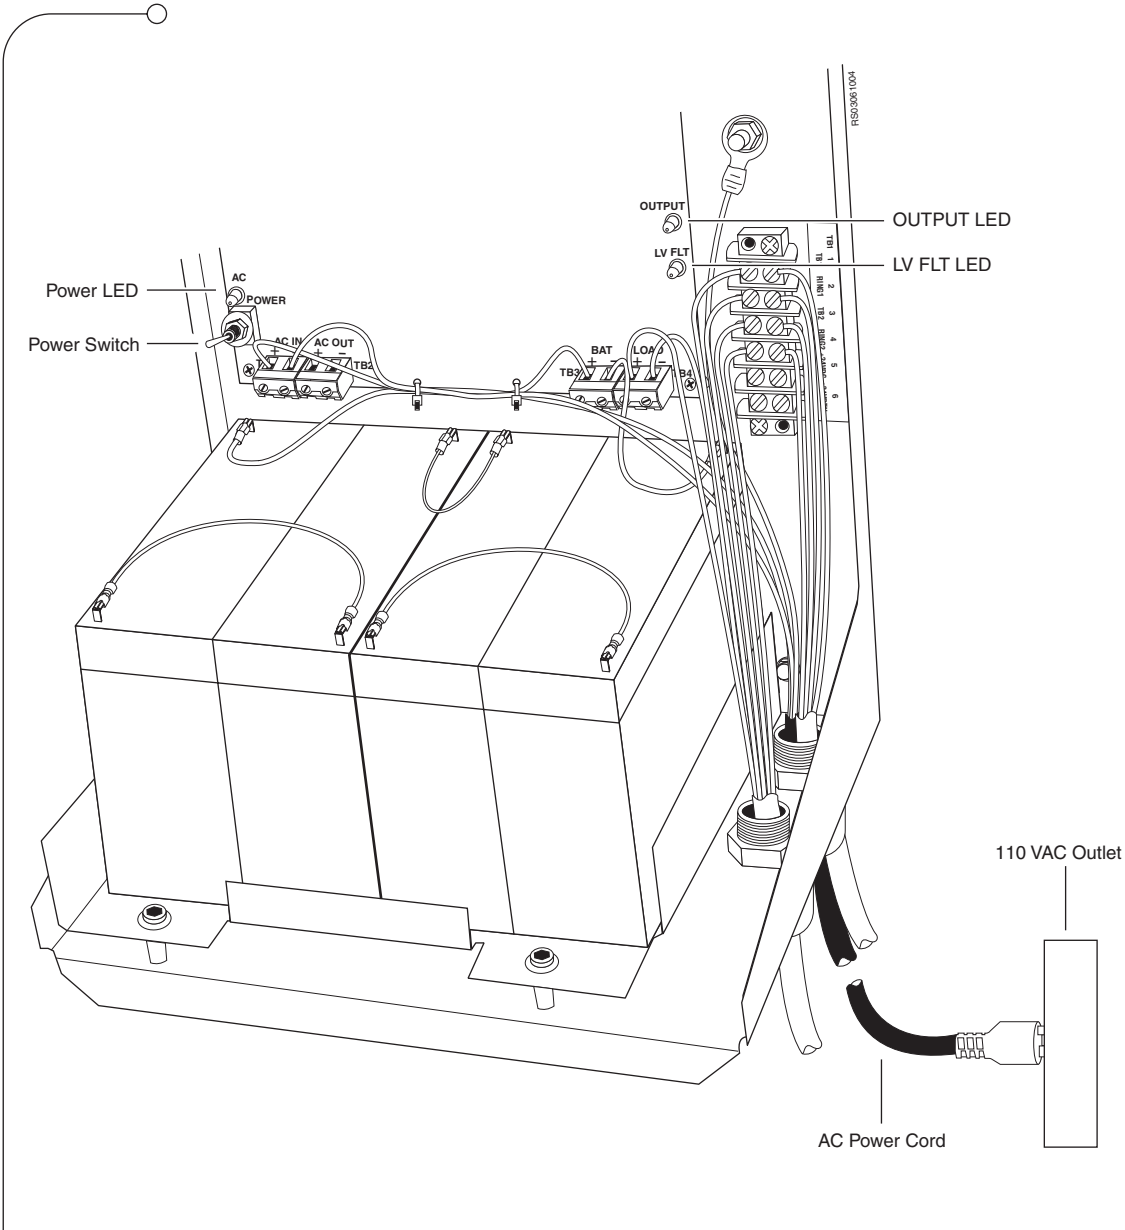

Figure 3.21 STS Power Pack AC Power Cord Connection
1. Connect the STS Power Pack AC power cord to a 110 VAC grounded AC outlet. as shown in Figure 3.21 on page 69.